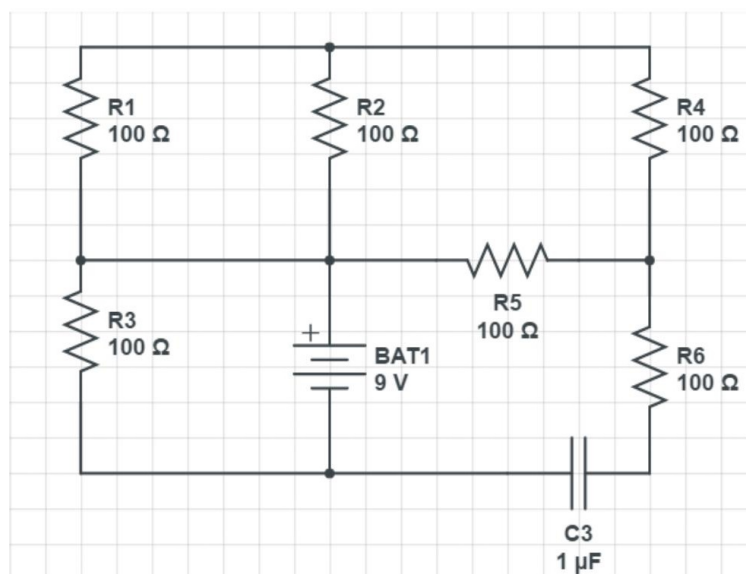

Figure 2.6: Effect of a fully charged capacitor on the circuit.
13. Answer the following in the results section of your log book. Your draft calculations can be shown in the "General Notes" section of the log book. In the circuit of Fig. 2.6, how will the fully charged capacitor affect the current and potential in R6? Answer this in your log book.